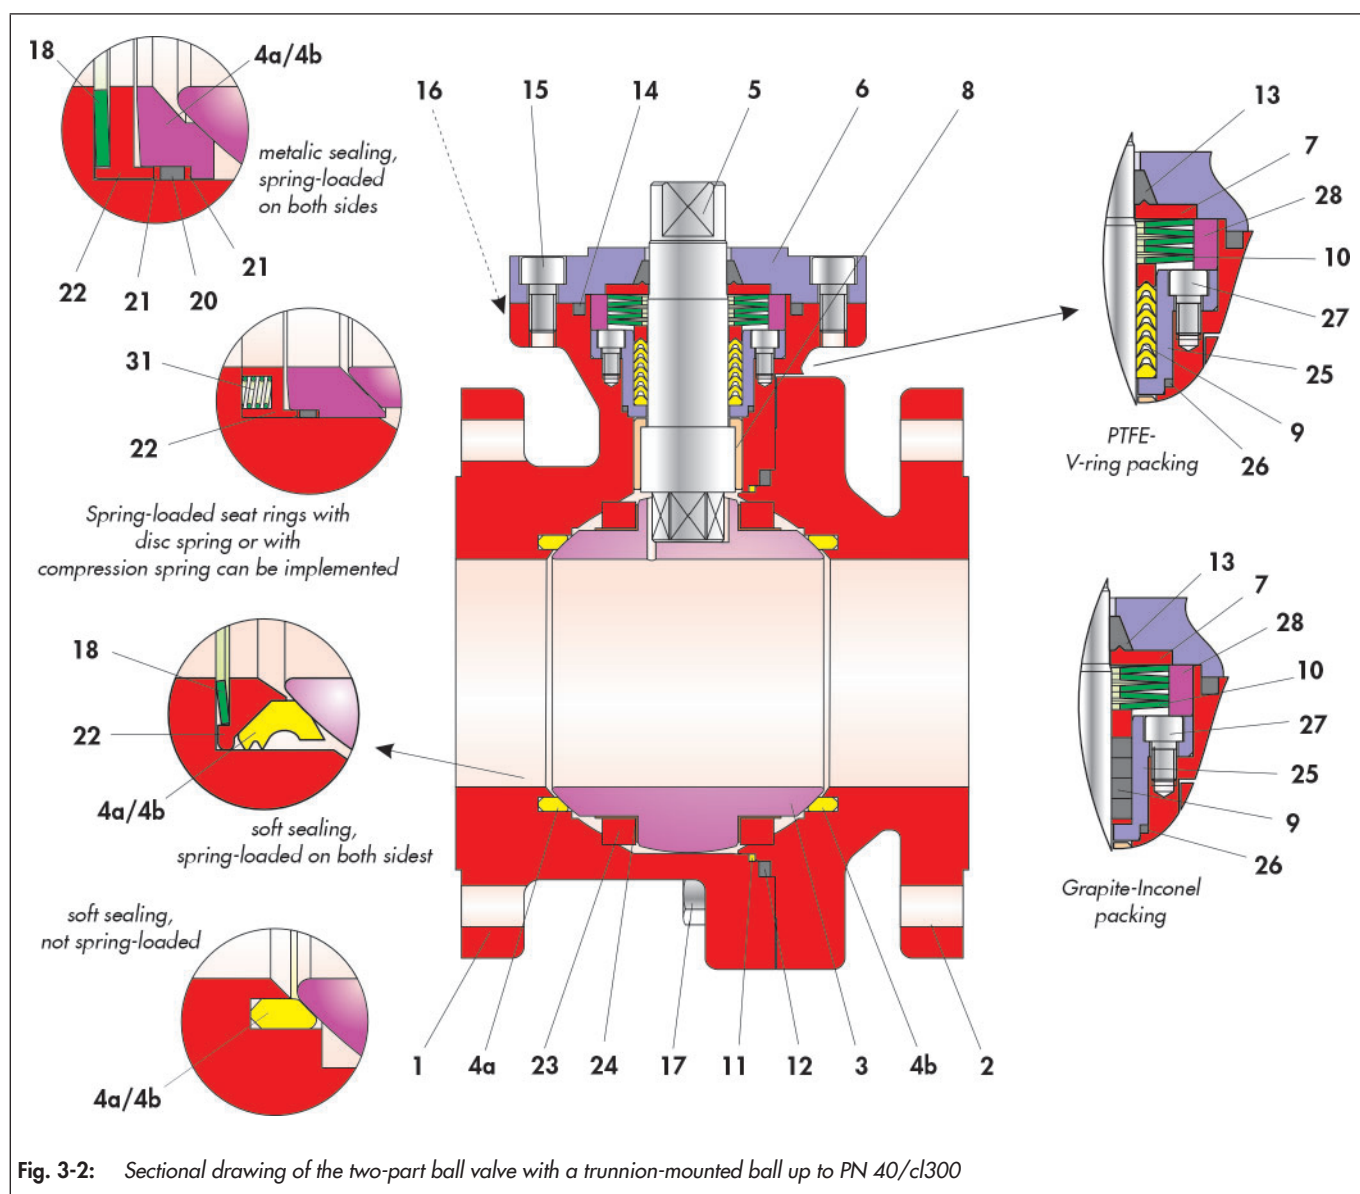

Fig. 3-2: Sectional drawing of the two-part ball valve with a trunnion-mounted ball up to PN 40/cl300
The position and arrangement of the individual parts shown in Fig. 3-2 must be observed during assembly.
- ⇒ Do not damage the sealing surface of the control shaft (5).
- ⇒ Position the bearing bush (8) with the control shaft (5) into the ball support (3) without twisting it.
- ⇒ Insert the ring (26) into the packing bush (25).
- ⇒ Fill the packing bush (25) with V-ring packing or graphite packing (9). Arrangement of the V-rings see Fig. 3-2.
- ⇒ Push the preassembled packing bush with a slightly rotary movement without excessive force over the assembled control shaft (5).
- ⇒ Screw the packing bush together with screws (27) evenly and in a criss-cross pattern.
- ⇒ Place the centre ring (28) on the packing bush.
- ⇒ Place the disc spring set (10) in the centre ring on the packing (9). Arrangement of the disc springs, see Fig. 3-2.
- ⇒ Push the bush (7) over the control shaft (5) such that it lies on the disc springs (10).
- ⇒ Push the carbon-graphite ring (13) carefully over the control shaft (5) up to the bush (7).
- ⇒ Insert the carbon-graphite ring (14) into the groove of the stuffing box flange (6).
- ⇒ Place the stuffing box flange (6) over the control shaft (5) onto the main body (1).
- ⇒ Lightly grease the screws (15).
- ⇒ Evenly adjust the stuffing box flange (6) with the screws (15) and tighten in a criss-cross pattern.